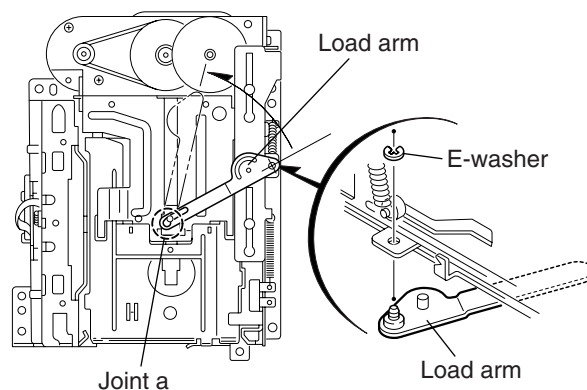

Fig.1
■ Removing the side bracket (L) and (R) / load board (See Fig.1 to 4)
3. Remove the spring (1) attaching the trig lever.